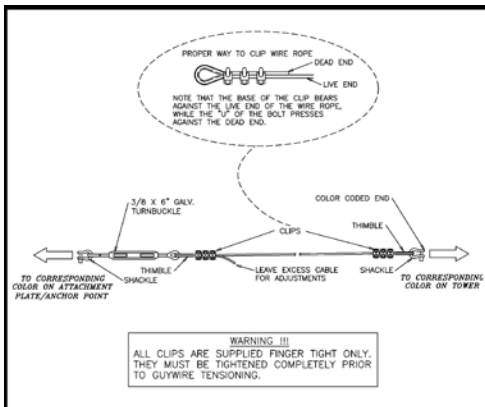
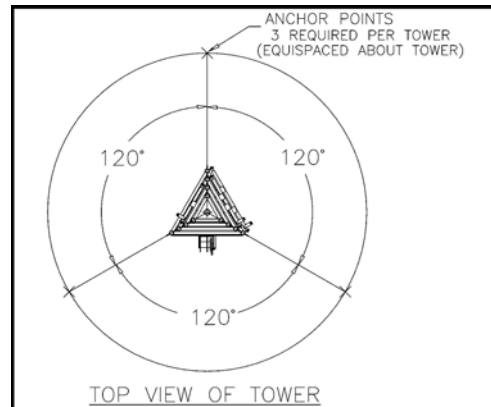

Fig. 5A Proper Guy Wire Configuration
Fig. 5B Standard Guy Wire Anchor Points
1. Attach the color coded ends of the guy wires to the corresponding color coded guy ears at the top of each section of the tower, using the screw pin shackle (*see Fig. 5A*). Be sure to tighten the screw pin shackle with a wrench. Lay the appropriate sets of three each guy wires in the general direction to which they will be anchored. (*see Fig. 5B*). See below if ***“Erecting the Tower at Less Than Full Height”***.